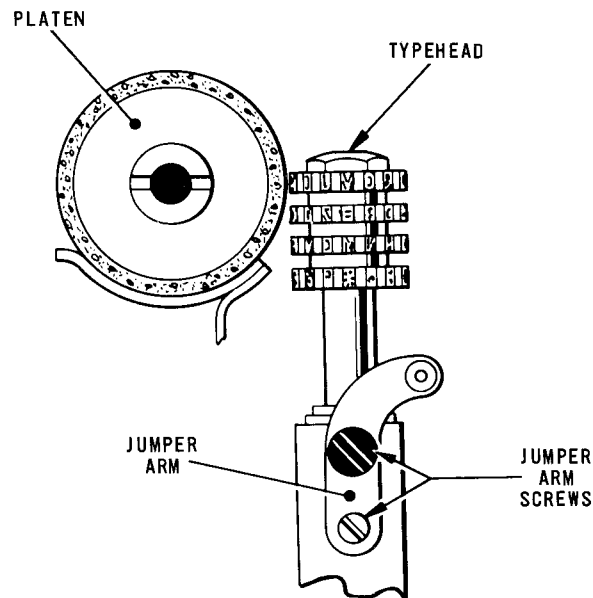

Fig. 4.56 RIBBON JUMPER ARM
- 68.2 If this is not so, slacken the two screws securing the jumper arm, Fig.4.56, and adjust the arm until the above condition is satisfied. Tighten the arm screws.